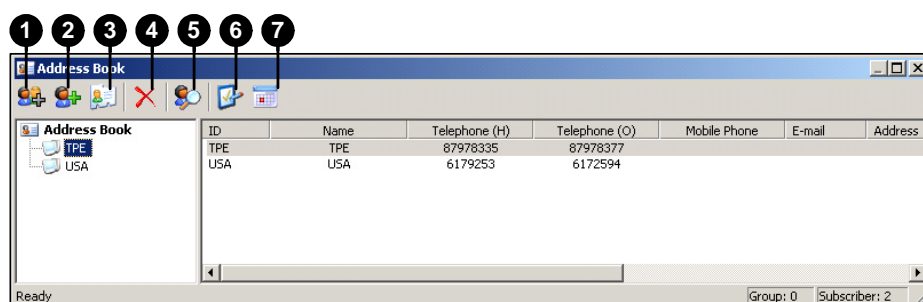

Figure 9-2 Subscriber Information
1. Click the **Add A Group** button (No. 1, Figure 9-2) to create a group.
2. Click the **Add A Subscriber** button (No.2, Figure 9-2). The Subscriber Address Book dialog box appears.
and edit them later by clicking the **Subscriber Settings** button (No. 6, Figure 9-2) on the toolbar. When you click the **OK** button, the subscriber account then is created.
2. Highlight one subscriber, and click the **Subscriber Schedule** (No. 7, Figure 9-2) to display the Schedule window.